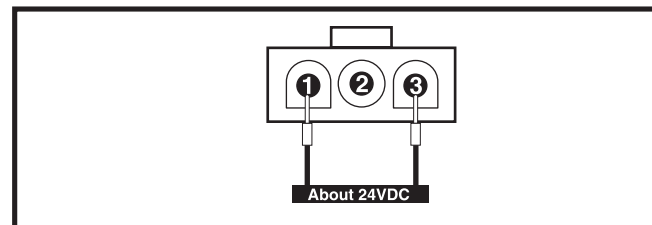
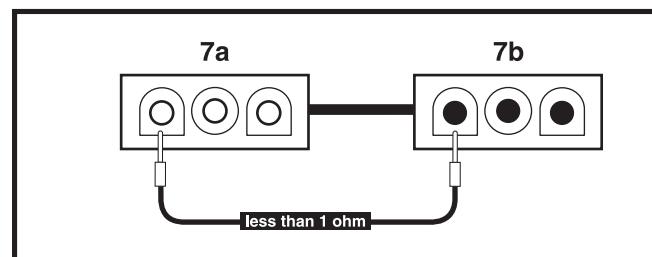

Figure 18. Connector 7b
Figure 19. Connectors 7a and 7b
16. Measure voltage across pin 1 and pin 3 on connector 7b. **See figure 18.**
- *If your multimeter indicates total battery voltage (about 24VDC)*, then replace the onboard battery charger (6) and retest the system.
18. Measure resistance across pin 1 on connector 7a and pin 1 on 7b. **See figure 19.**
- *If your multimeter indicates less than 1 ohm*, then replace the charger/joystick interface harness (3) and retest the system.
- *If your multimeter indicates an open*, then replace the charger interface harness (7) and retest the system.